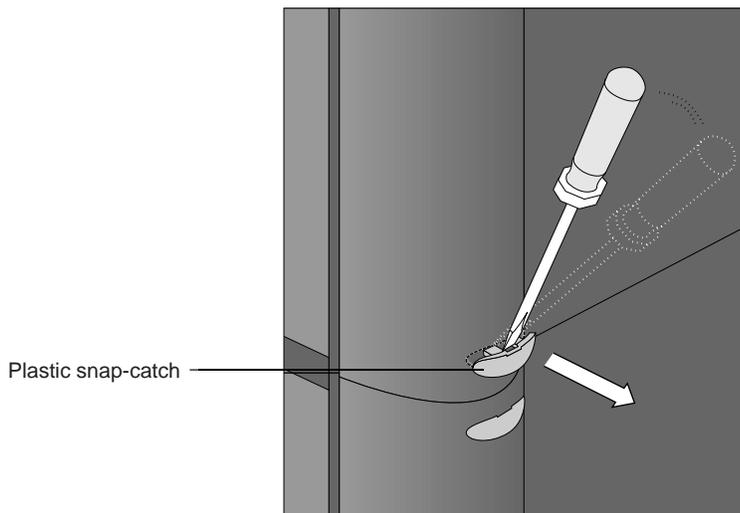

Figure 29. Removing the plastic snap-catch
- a. Use a small flat-blade screwdriver to pop off the teal snap-catches that hold the plastic covers to the unit (Figure 29). There are a total of eight snap-catches.